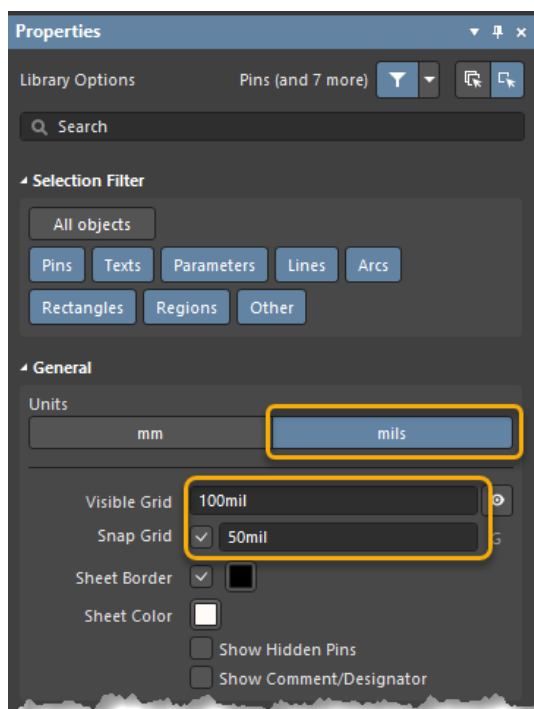

Figure 11. Grid Properties
13. Go to **Tools » Document Options....** to open the *Properties* panel. Change the *Snap Grid* to 50mil as shown in Figure 11.